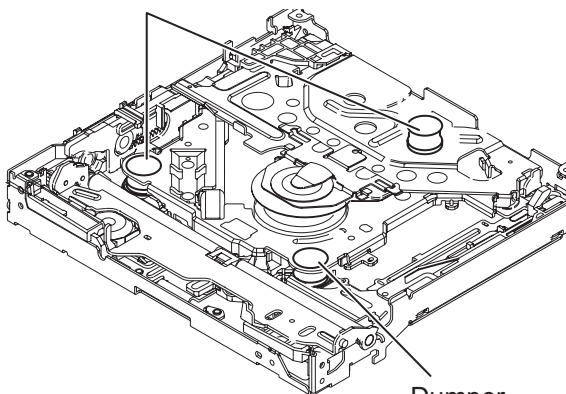

Fig.6
(7) From the top side, pull up the traverse mechanism and disengage three dumper positions. (See Fig.6)